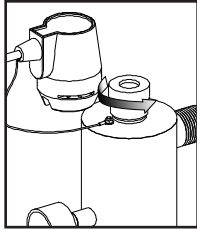
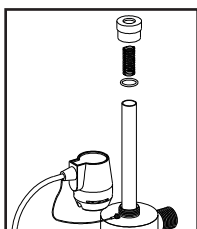

FIGURE 3A
FIGURE 3B
4. Remove the retaining nut by turning counter clockwise (Figure 3a). Place a small pail under the reactor chamber to catch any water that may leak from the system. Grasp the quartz sleeve and fully remove from the reactor chamber. As with the lamp, make sure the sleeve is removed from the reactor chamber being careful not to angle the sleeve as it is removed from the reactor (Figure 3b) to avoid breakage.